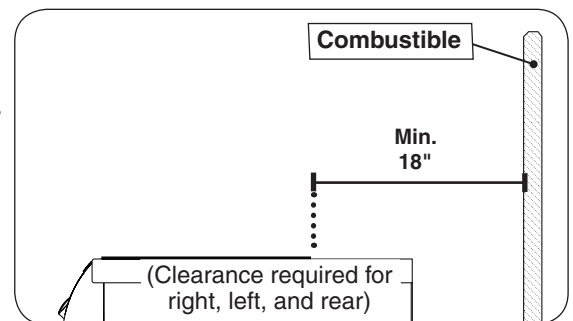

Fig. 9-4 Clearance 'C' Diagram
- The unit must have a minimum of 18" right, left, and rear clearance from any combustible wall (see Fig. 9-4).